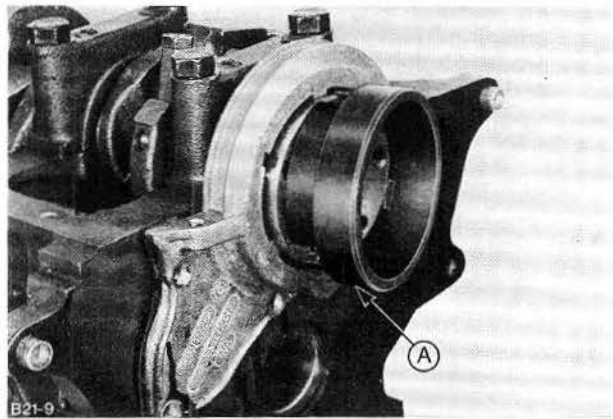

Fig. 50. Fit rear oil seal carrier.
46. Refit rear oil seal carrier fitted with a new oil seal (sealing lip lightly lubricated), using Special Tool 21-029, Fig. 50.